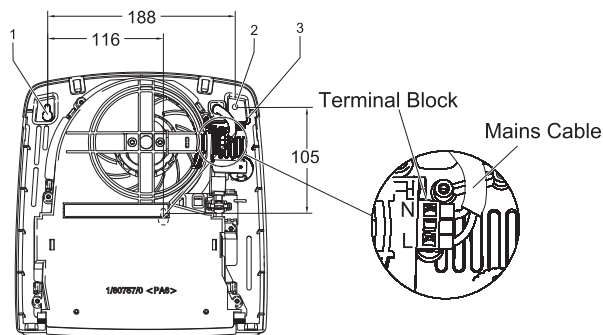

Fig. 2
The appliance is secured to the wall with three screws, two through keyhole slots '1' and '3' and one through a hole '2' to hold the appliance firmly in position (see Fig. 2).
2. Mark the position of the two keyhole slots '1' and '3' (see Fig. 2 for dimensions) on the wall and drill and plug for the two suitable screws.
7. Make electrical connections to the terminal block ensuring that the live connection is made to the terminal marked 'L' and the neutral connection to the terminal marked 'N' (see Fig. 2 exploded view).